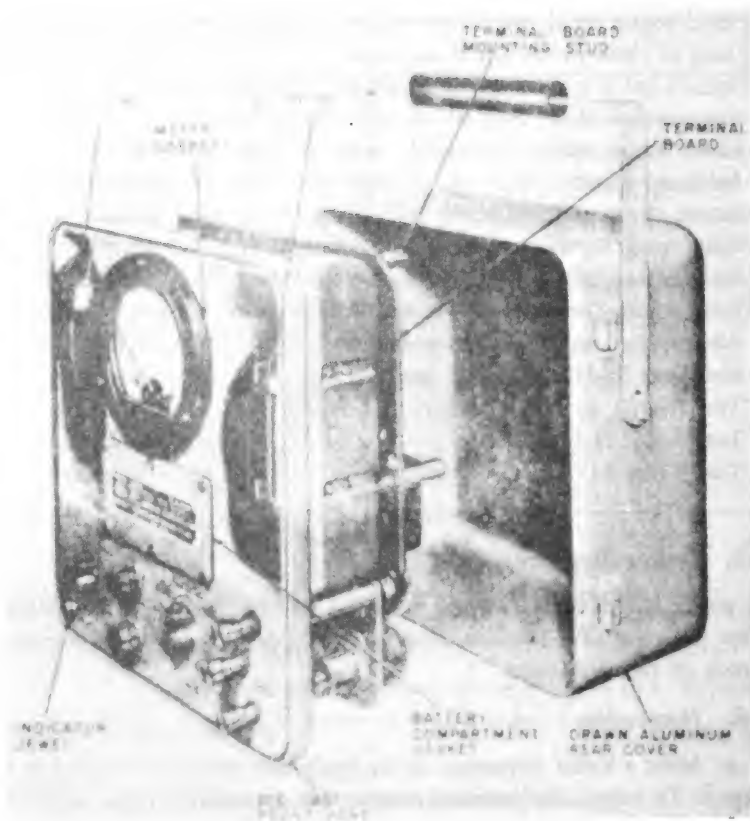

Figure 12. Electronic Multimeter TS-505/U, components removed from case.
a. Make a visual inspection of the equipment when it is turned in for repair. To inspect the interior, remove the six screws on the back cover and slide the instrument out of the cover (fig. 12).